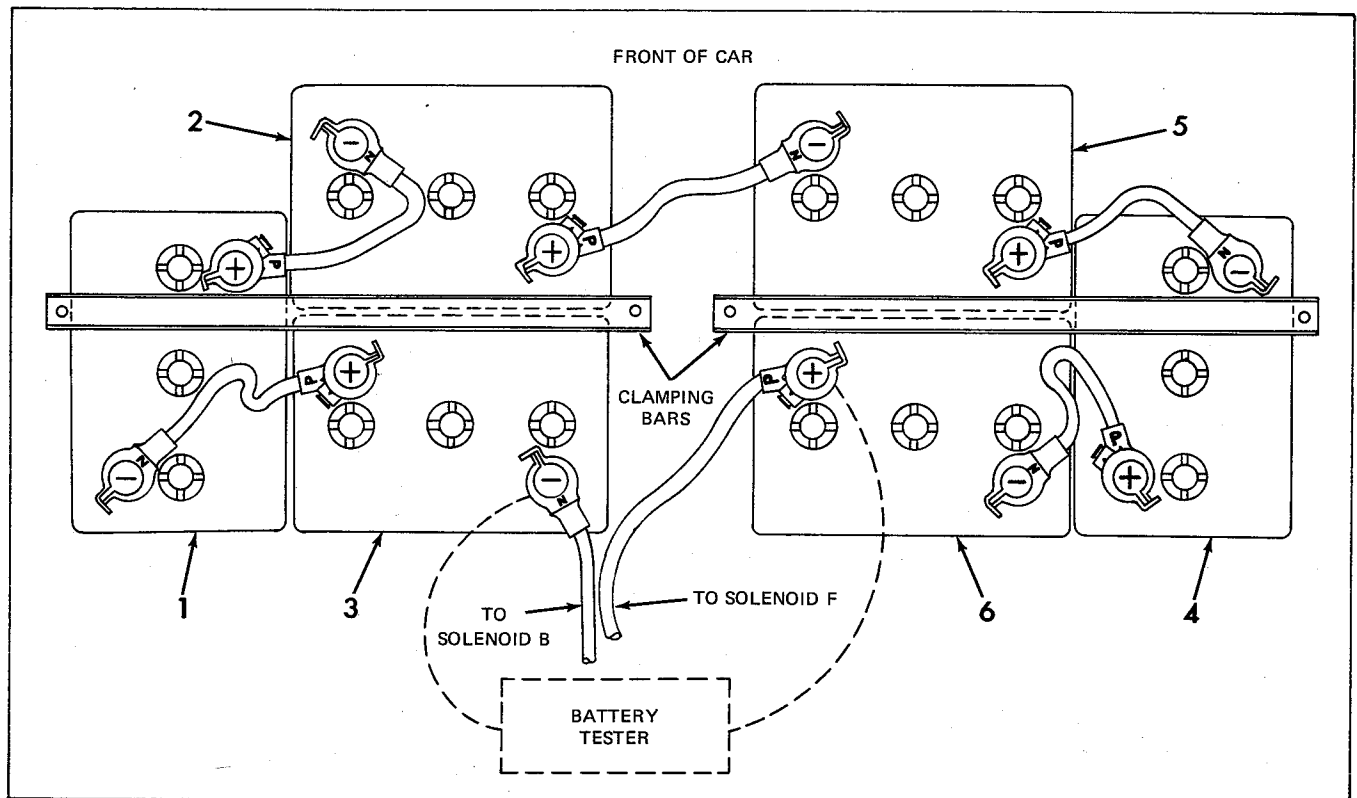

Figure 5-8. Battery Installation Diagram
The battery serves as power source for operating the electric car motor. Six three-cell, 6-volt batteries are connected in series for 36-volt operation. Batteries are installed as shown in Figure 5-8. Numbers in diagram indicate order of installation.
1. Connect Fox tester as shown in Battery Installation Diagram, Figure 5-8.